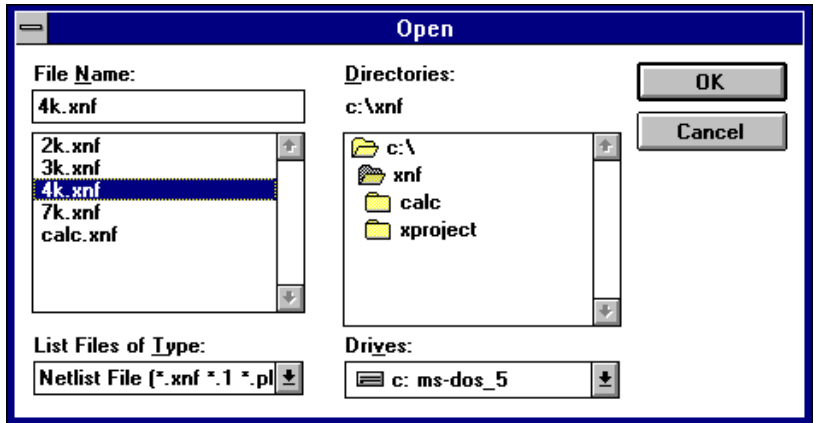

Figure 2-5 Open Dialog Box
- If you don't know the file name click the Input Design Browse button. The Open dialog box appears in which you can select a design file to open (see Figure 2-5).